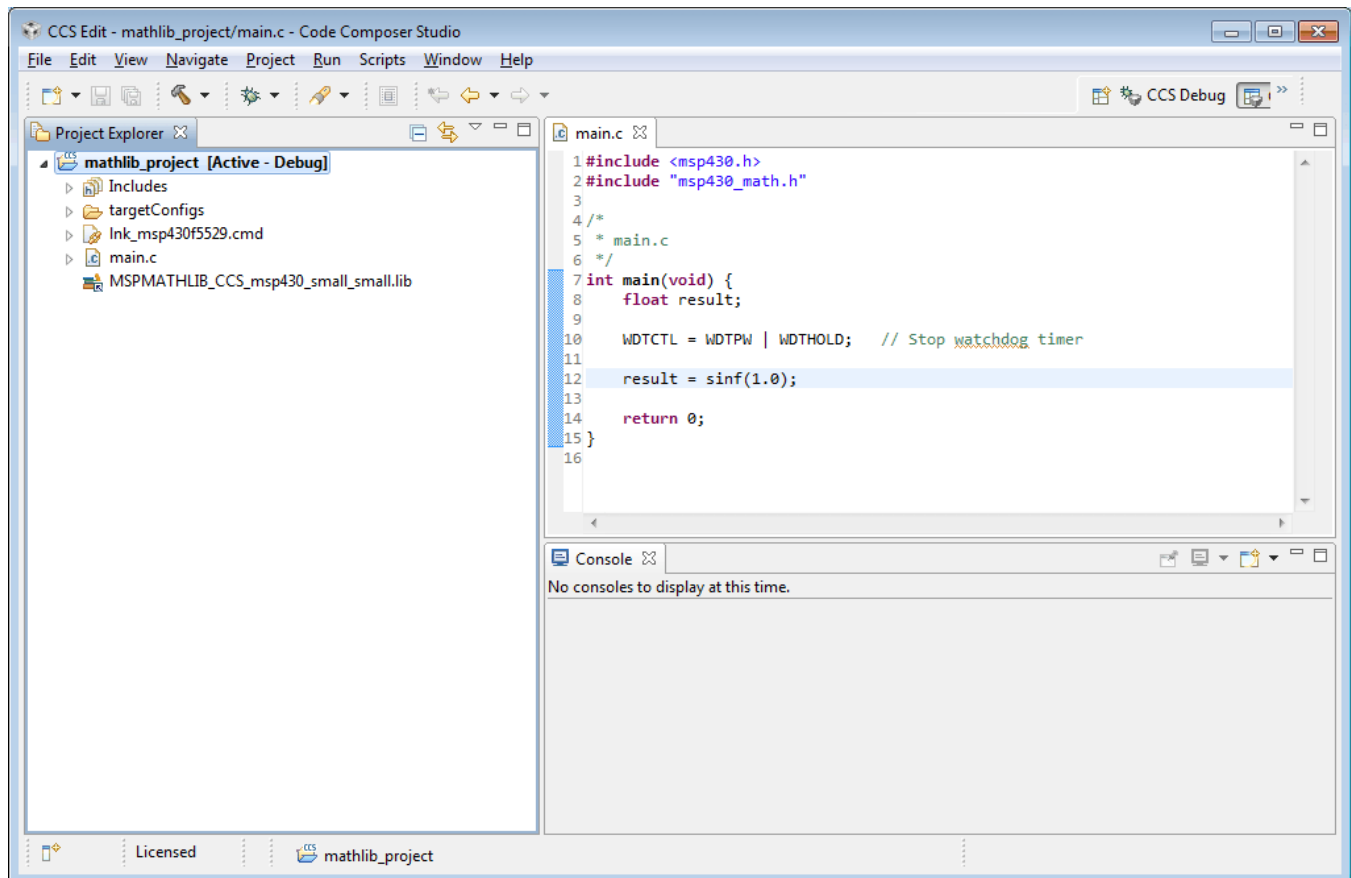

Figure 5. Replace Includes of `math.h` With `msp430_math.h`
6. Replace all inclusions of `math.h` with the `msp430_math.h` header file that is located in the top-level include directory (see Figure 5). `msp430_math.h` includes `math.h` and redefines the function names to link the included library functions. Functions that are not included in MSPMATHLIB continue to use the compiler implementation.